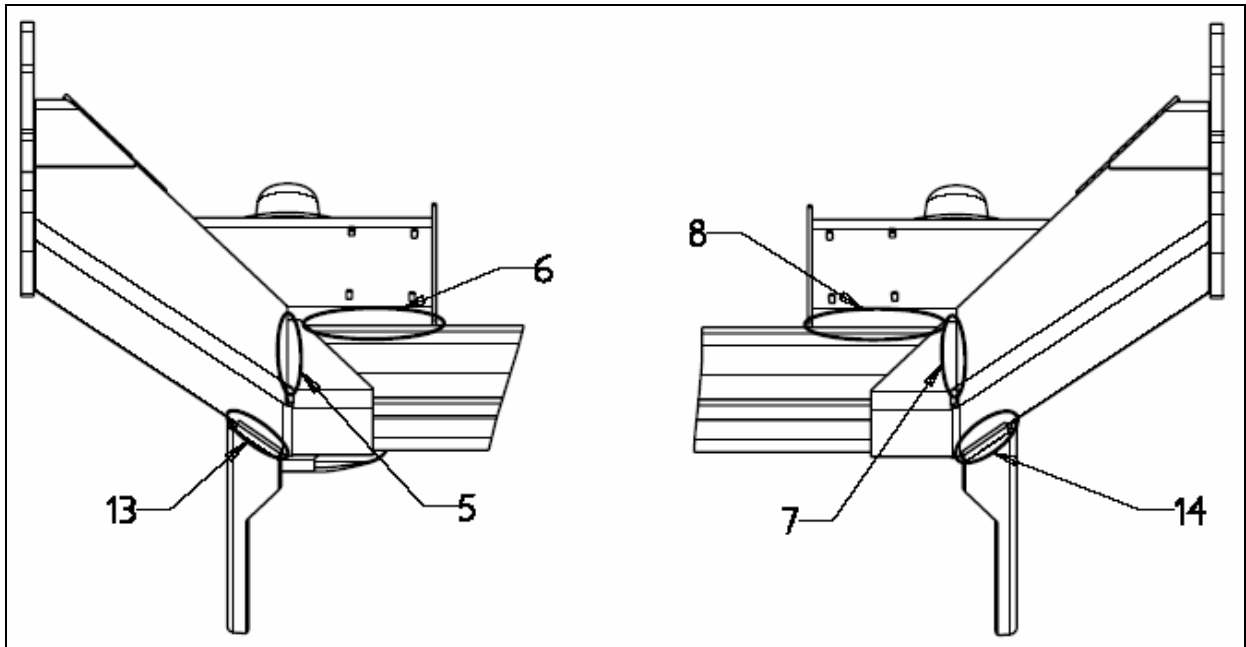

Figure 1: Rear view of lowered axle.
- 1 Thoroughly inspect the axle and locate all cracks. Figures 1, 2, 3, and 4 identify regions on the axle to inspect for cracks. Each area of concern is numbered and circled on the drawing. Record findings in Table I; marking the table with a check for if a crack is present or not in any of the 20 regions. At the end of the table make note of any other damage or condition discovered elsewhere on the axle. Note that when cracks form, they would be found beside welds, likely originating at the edge of the material.